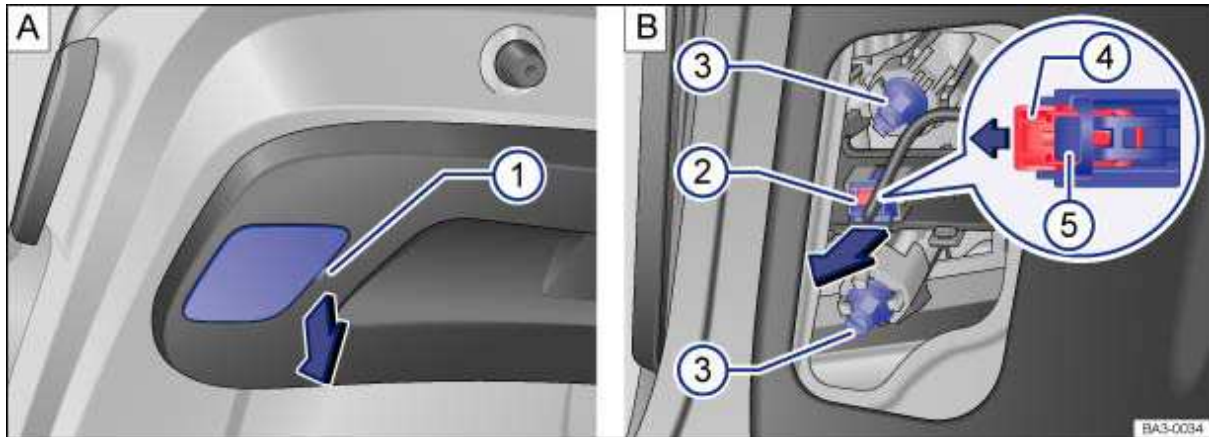
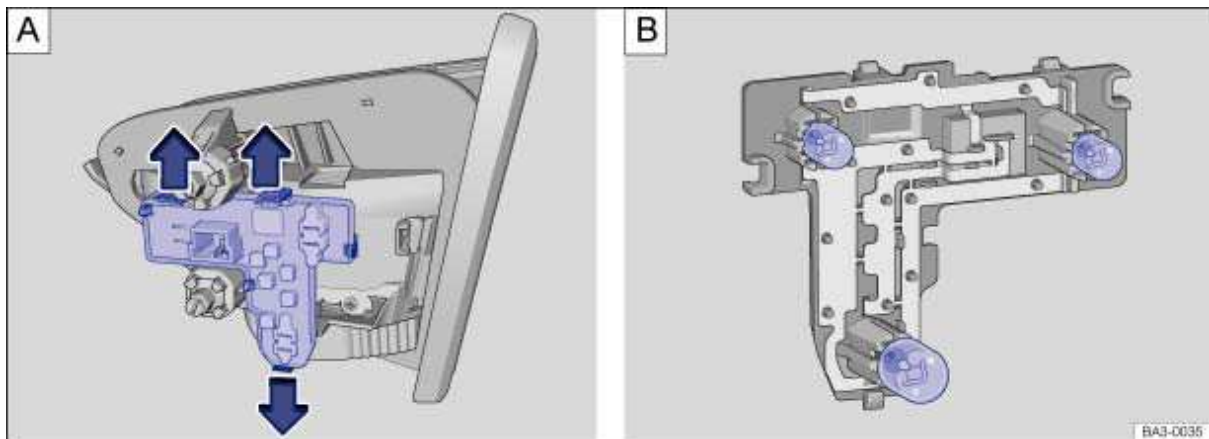

Fig. 220 A: In the luggage compartment lid: Removing the taillight cover. B: Removing the taillight assembly.
Fig. 221 A: Taillight assembly: removing the bulb socket assembly. B: Removing the light bulbs.
3.	Using the flat blade of the screwdriver in the vehicle tool kit (⇒ page 421), carefully pry the cover out of the slot ⇒ fig. 220 A (1) (arrow).
4.	Pull the red locking tab B (4) in the direction of the arrow to unlock connector plug B (2) .
5.	Push catch B (5) to release connector plug. Then pull out connector plug B (2) .
7.	Unscrew the fastening screws B (3) with screwdriver and carefully remove the taillight assembly from the luggage compartment lid. Pull it to the side and away from the vehicle body and place it on a clean, smooth surface.
8.	Unlock the bulb socket assembly by pressing the locking tabs in direction of the arrow ⇒ fig. 221 A and remove the bulb socket assembly from the taillight assembly.
11.	Carefully reinsert the taillight assembly into the opening in the luggage compartment lid. Hold the rear light assembly with one hand in the installation position, and with the other hand tighten the fastening screws ⇒ fig. 220 B (3) .
12.	Plug connector plug B (2) into the bulb socket and push red locking tab B (4) in the direction opposite to the arrow.